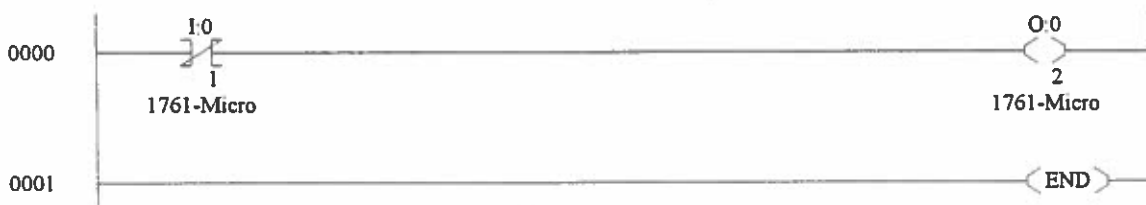

Figure 9-8
10. Now go OFFLINE and create a new program in Figure 9-8.